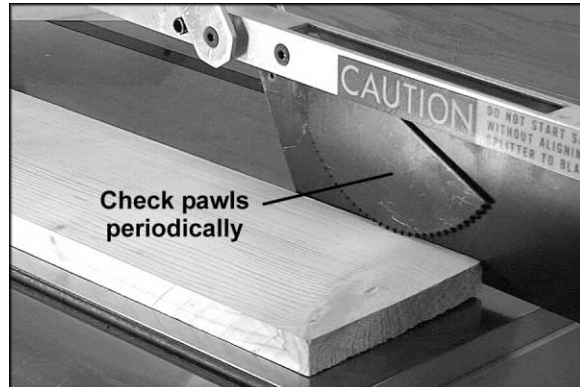

Figure 24
- As the machine receives use, the operation of the anti-kickback pawls should be checked periodically. See Figure 24. If the pawls do not stop the reverse motion of a workpiece, re-sharpen all the points.